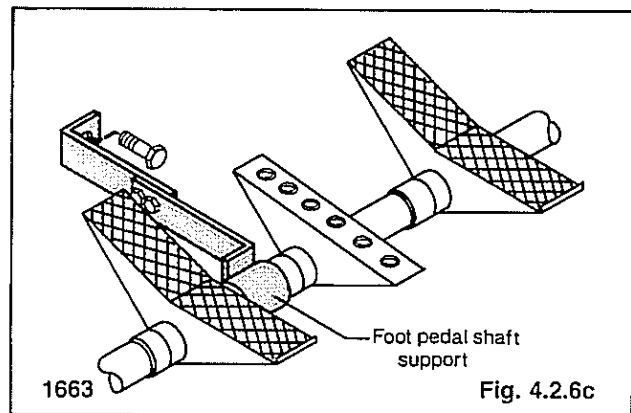

Fig. 4.2.6c
7. Disconnect the foot pedal shaft support from the main frame (fig. 4.2.6c).